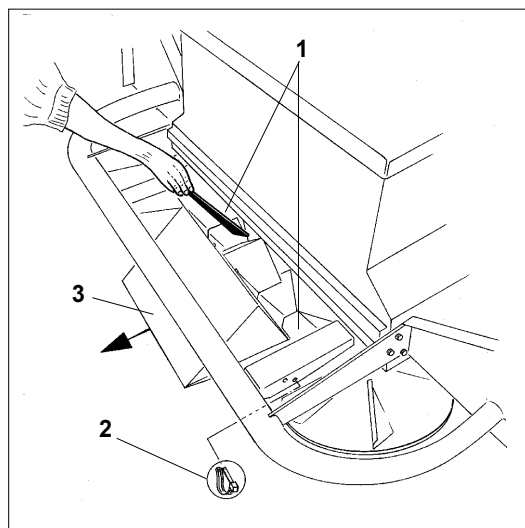

Fig. 7.19
Spreading material can build up inside the outlet openings (Fig. 7.19/1) of the guide chute to become too narrow to achieve a correct spread pattern. To achieve a correct spread pattern ensure that both outlets are clean. Therefore before every operation of the bulk spreader check resp. clean the outlets as follows:
- pull out two clip pins (Fig. 7.19/2) and pull guide chute (Fig. 7.19/3) to the rear until the outlets (Fig. 7.19/1) can be seen
- push guide chute back into position and affix by two clip pins (Fig. 7.19/2) as described on pages 7 - 11 again.